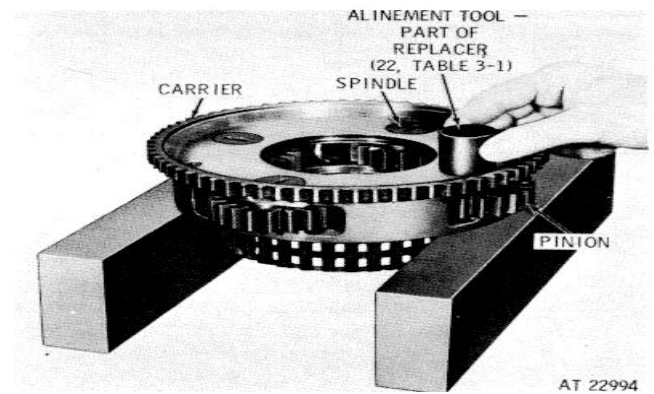

Figure 7-10. Alining pinion assembly in intermediate-range planetary carrier.
a. Chill spindles (31.8) for approximately 1 hour in dry ice prior to installing in planetary carrier (32).
f. Insert the pinion with spacers, rollers and washers into its location in carrier (32). Using alignment tool of replacer (22, table 3-1), align the pinion and its components with the carrier spindle bore (fig. 7-10).